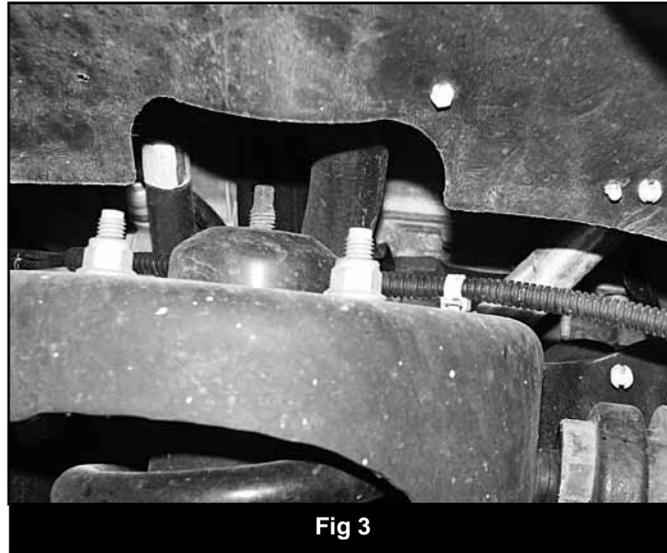

Fig 3
8. Remove the three upper strut mounting nuts at the frame (Fig 3). Do not remove the center strut rod nut, it is under extreme pressure. Discard mounting nuts.